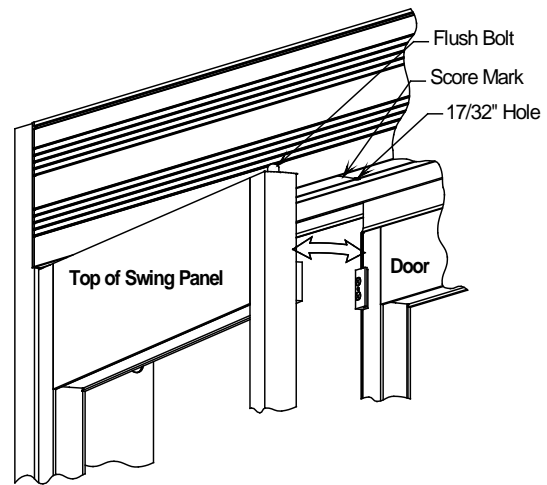

Figure 15
15. Open and close the swing panel several times, while lifting on the flush bolt handle enough to make contact with the header and the floor track, to score both surfaces. (See Figure 15)